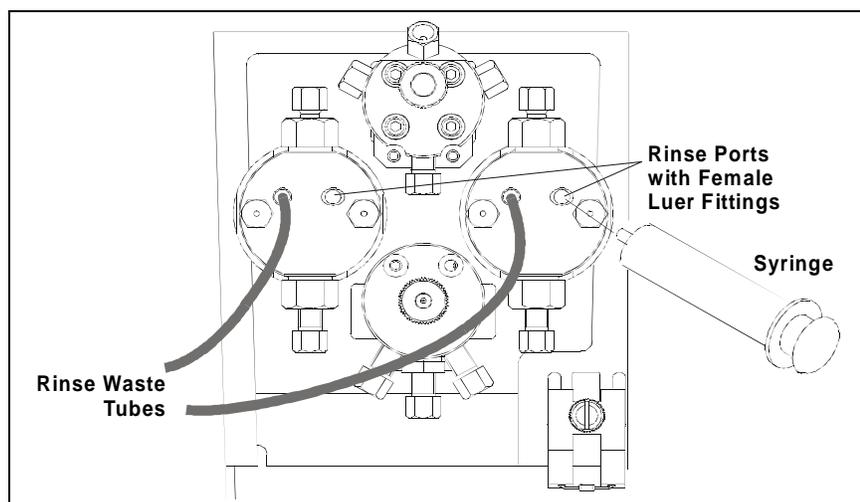

Figure 3-6. Rinsing the Pump Heads
1. Open the lower pump door and locate the rinse ports on the front of each of the pump heads (see Figure 3-6).
2. Install the two rinse waste tubes (P/N 054418) located in the IP25 Ship Kit onto each head as shown in Figure 3-6.